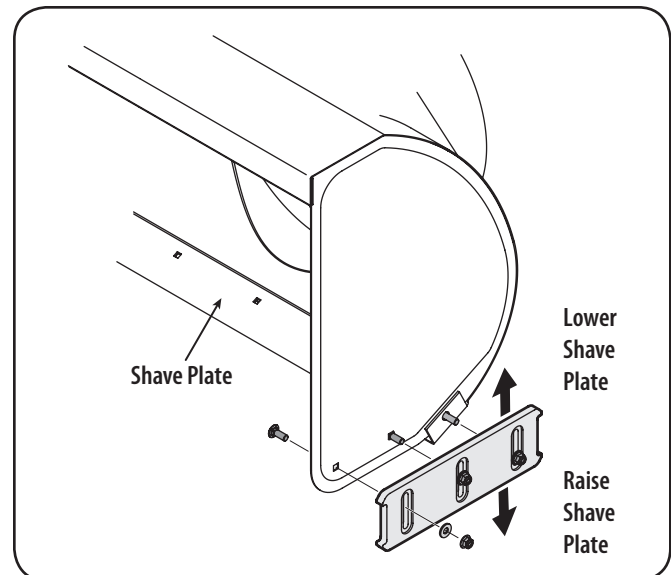

Figure 3-10
1. Adjust skid shoes by loosening the six (three on each side) hex nuts, washers, and carriage bolts securing the skid shoes to the auger housing. Refer to Fig. 3-10.
2. While observing the distance between the shave plate and the ground, adjust the skid shoes up or down to achieve the desired shave plate height. See Fig. 3-10.